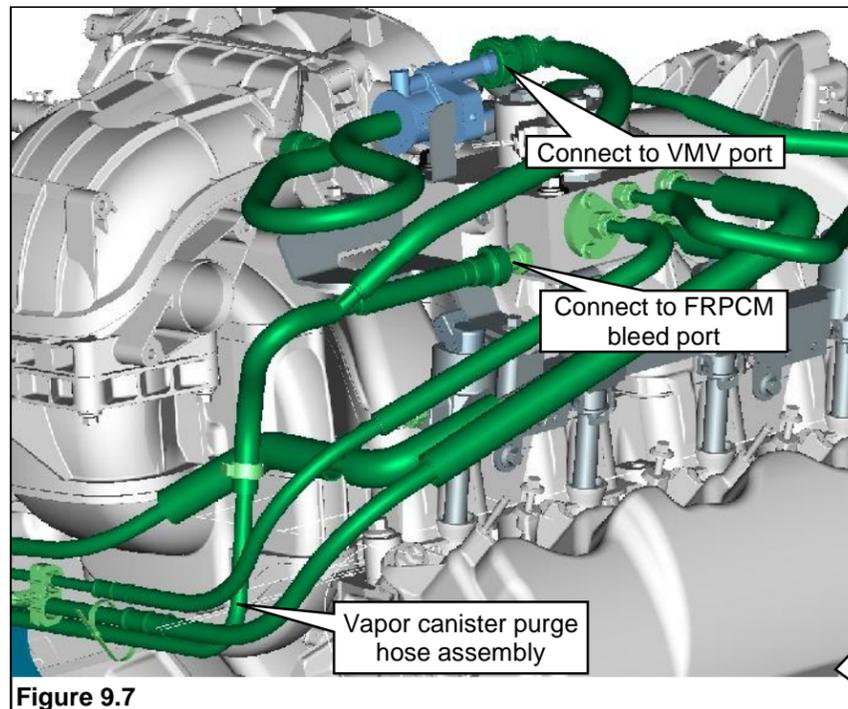

Figure 9.7
12. Connect the vapor canister purge hose assembly to the bleed port on the FRPCM and to the VMV port. **Figure 9.7.**